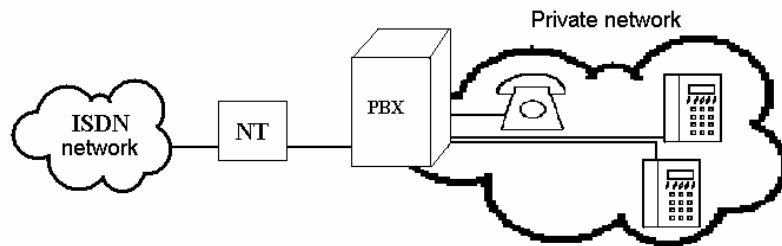

Fig. 17 - Point-to-Point Connection
The Point-to-Point (EuroISDN with DDI) configuration interconnects directly one ISDN terminal (TE) with a network terminal (NT) (see Fig. 17). This type is applied mainly where PBXs are connected to the ISDN.